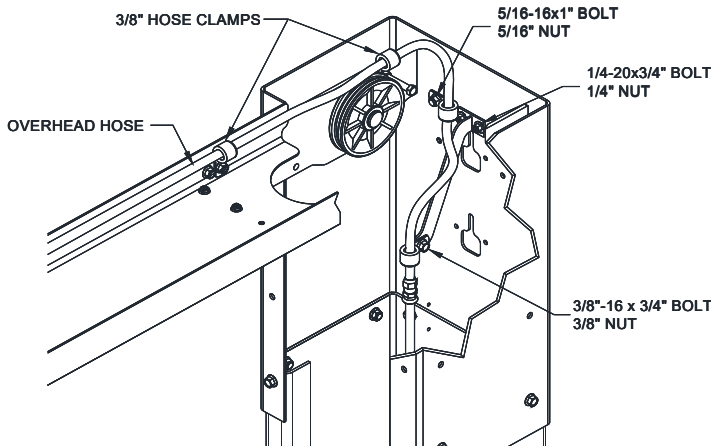

Fig. 15a – Hose Routing, Idler Side
- 34) Install the hose support tabs to both idler and power columns using 1/4"-20NC x 3/4" lg. hex flange bolt and nut, see **Fig. 15a** and **Fig. 15b**.
- 35) Route idler column hose through the idler column extension as shown in **Fig. 15a**, taking care to avoid the synchronizing cables and hydraulic cylinder path. Uncoil the overhead hose and attach it to the idler hose. Remove slack and tighten all 3 clamps. Route hose across overhead avoiding the synchronizing cables and down through the power column extension as seen in **Fig. 15b**. Do Not Tighten clamps at this time.